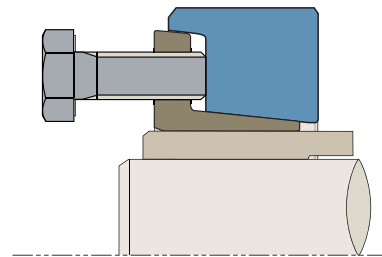

Figure 2
### REMOVAL (Refer to Figure 2)
1. Loosen all locking screws in several stages by using approx. 1/2 (i.e., 180°) turns, following either a clockwise or counterclockwise sequence, until Shrink Disc can be moved on hub. If the shrink disc does not release, transfer the appropriate number of screws into the threaded backoff holes in the outer ring (Figure 2). Evenly and progressively tighten these screws, in either a clockwise or counter clockwise sequence, until outer ring releases. The shrink disc, hub and shaft will return to their original clearance fits.